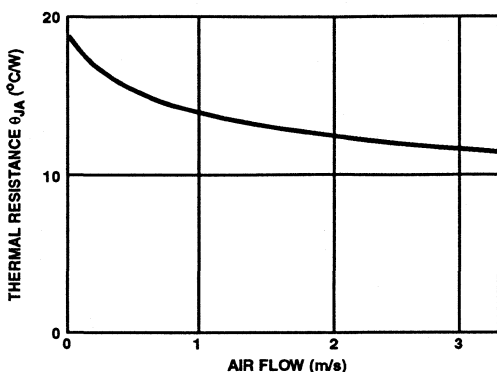

FIGURE 2. THERMAL RESISTANCE MOUNTED ON-BOARD
- T_A is specified in still air and without heatsink. To extend temperature range, appropriate heat management techniques must be employed (See Figure 2).